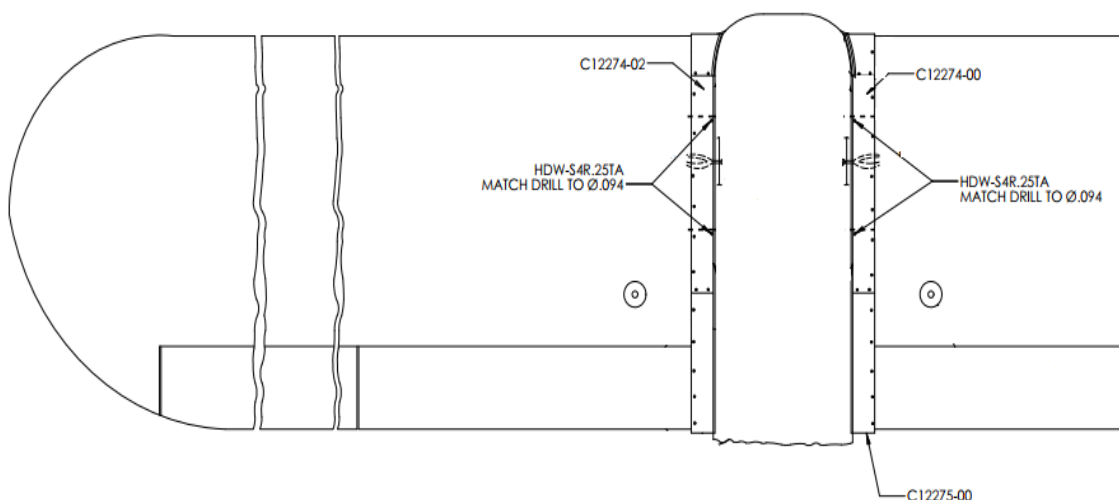

Figure 8
3. If an airspeed switch is installed (Reference part number 7481712), see WIPAIRE drawing 1008950. Refer to AMM 57-00 to remove the Front Wing Root Fairing Assembly, Lower Wing Root Fairing, Upper Wing Root Fairing, and Lower Rear Wing Root Fairing Assembly. Disconnect the pitot line between wing and fuselage in the maintenance panel (refer to C12274 / 5 in Figure 8) , remove the 1/4 transparent tube (P610049) and T-joint. Then re-connect the pitot line between wing and fuselage. Reinstall the wing fairings. **Check the pitot system for leak per AMM 34-00.**